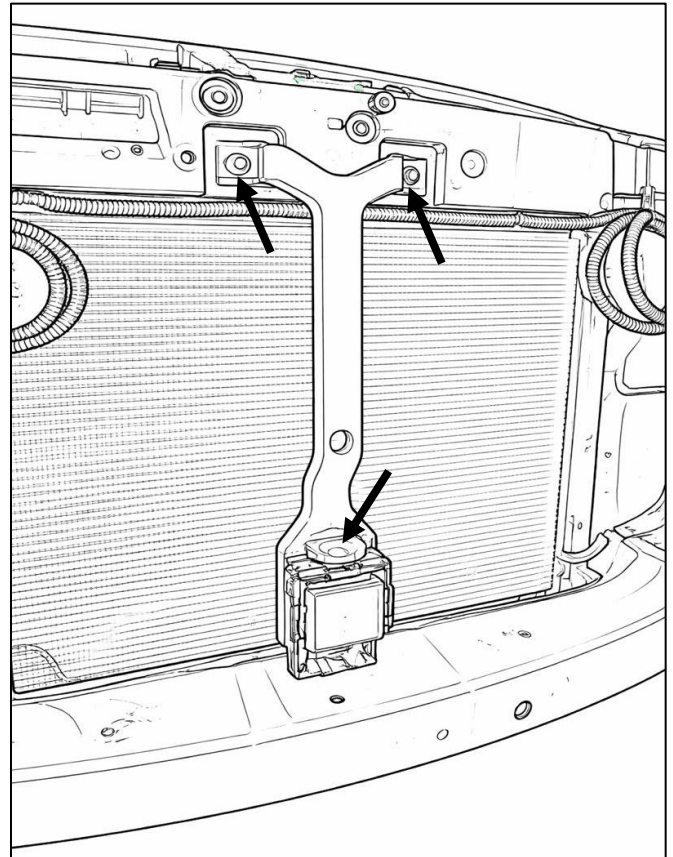

Figure 8: Radar Sensor, Bolts
10. ☐ Using a T25 driver, remove the (2) screws that are holding the front radar sensor enclosure to the top of the radiator and the (1) screw holding it to the housing. Disconnect the wiring and remove the sensor from the enclosure. **See Figure 8.**